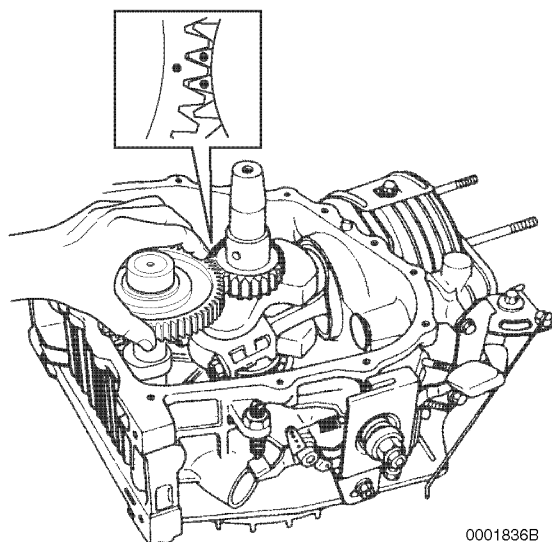

Figure 6-100
7. Lubricate the camshaft needle bearing in the cylinder block. Slowly insert the camshaft **Figure 6-100** into the cylinder block.